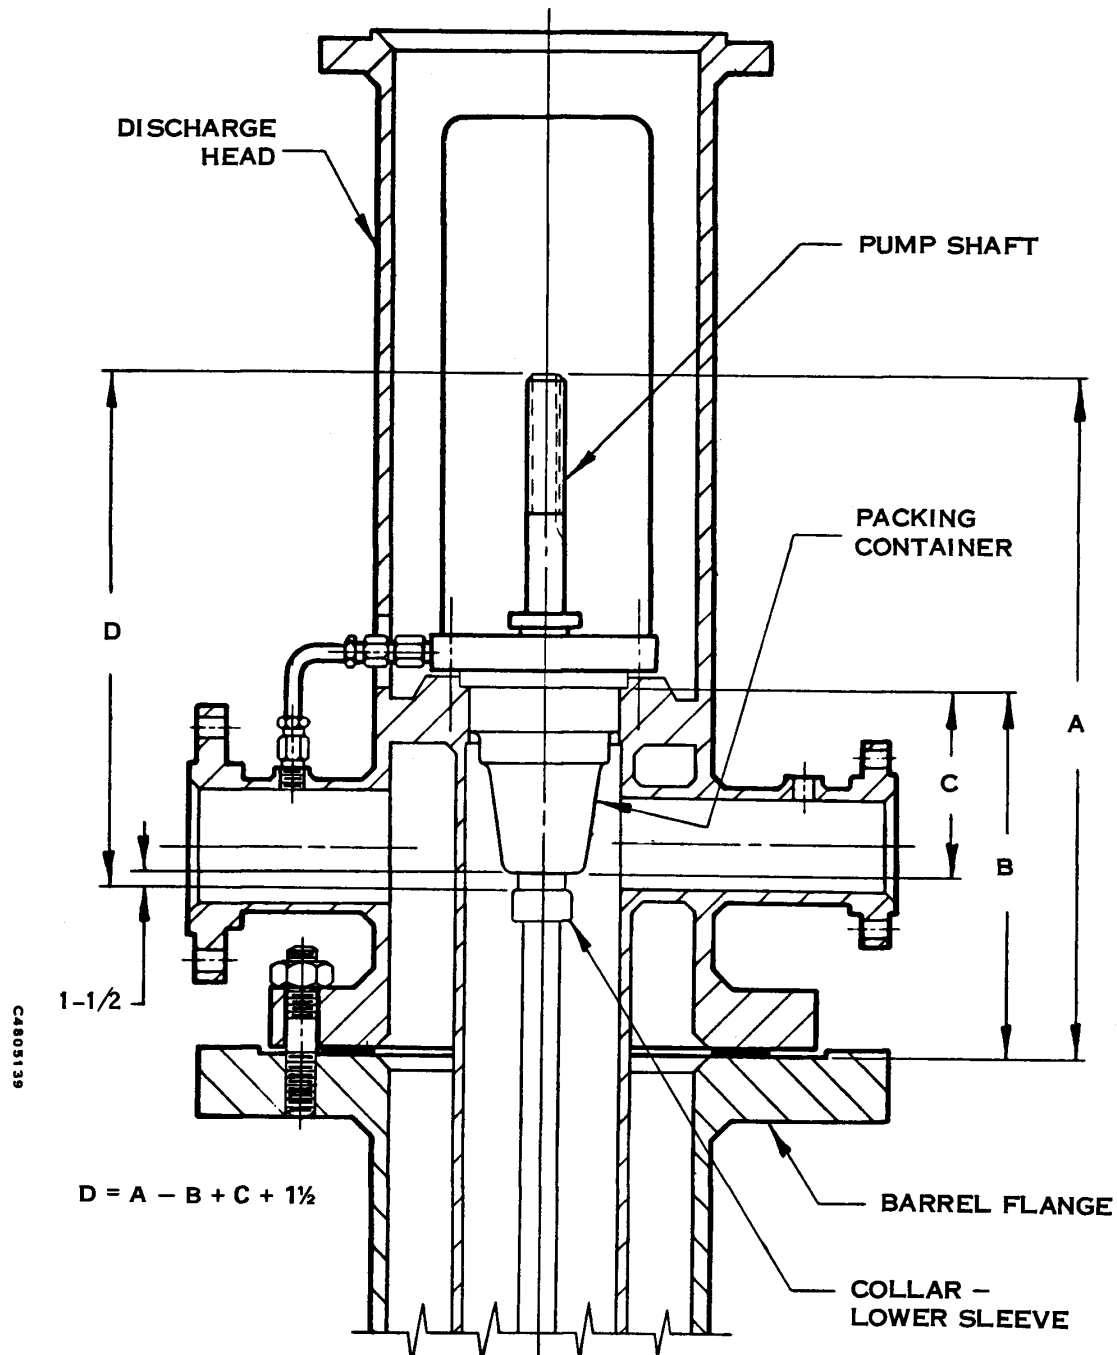

Fig. 5-7 Measurements necessary for positioning lower sleeve on shaft.
9. High pressure pumps such as Model HP require a special shaft sleeve assembly in the packing or seal area. The lower portion of this assembly must be installed on the shaft before the discharge head is in place. The correct position is found by making measurements as shown in Fig. 5-7. A detailed view of the shaft sleeve
Apply a compatible lubricant to the O-ring (336.358), and slide it on the shaft a short distance from the top, followed by the back-up ring (436.000). Next, install the lower sleeve (358.000) on the shaft. Insert the backup ring and O-ring into the groove at the lower end of the lower sleeve. Lift the collar up to the sleeve, moving the taper-lock bushing and washer with it, and manually screw the collar onto the sleeve. Position the collar and sleeve to the "D" dimension in Fig. 5-7. Tighten the collar on the sleeve, using pipe wrenches. This will lock the sleeve firmly in place on the shaft. File smoothly any burrs which may have been raised on the collar or sleeve, and wipe off all metal chips with a clean rag. Remove the apron and rag which were protecting the top of the bowl unit.
2. High pressure pumps such as Model HP require a special shaft sleeve assembly in the packing or seal area. The lower portion of this assembly must be installed on the shaft before the discharge head is in place. The correct position is found by making measurements as shown in Fig. 5-7. A detailed view of the shaft sleeve assembly is given in Fig. 6-3.
Slide the collar (107.358), the taper-lock bushing (092.358), and the washer (423.000) over the shaft as shown in Fig. 6-3. The bushing may be spread for easy installation by inserting a screwdriver into the split. Apply a compatible lubricant to the O-ring (336.358) and slide it on the shaft a short distance from the top, followed by the back-up ring (436.000). Next, install the lower sleeve (358.000) on the shaft. Insert the back-up ring and O-ring into the groove at the lower end of the lower sleeve, lift the collar up to the sleeve, moving the taper-lock bushing and washer with it, and manually screw the collar onto the sleeve. Position the collar and sleeve to the "D" dimension in Fig. 5-7. Tighten the collar on the sleeve, using pipe wrenches. This will lock the sleeve firmly in place on the shaft. File smooth any burrs which may have been raised on the collar or sleeve, and wipe off all metal chips with clean rag. Remove the apron and rag which were protecting the top of the bowl unit.